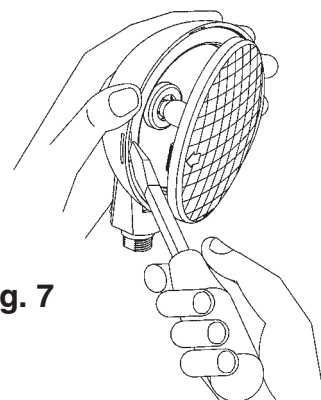

Fig. 7
- Remove diffuser lens from lamp housing by prying lens adjacent to tab slot (see Fig.7)